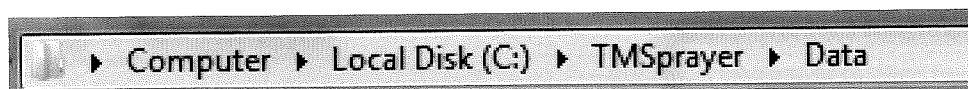

Figure 14. Software Folder Location
- d. Check that within the TMSprayer folder the files are as pictured in Figure 14.